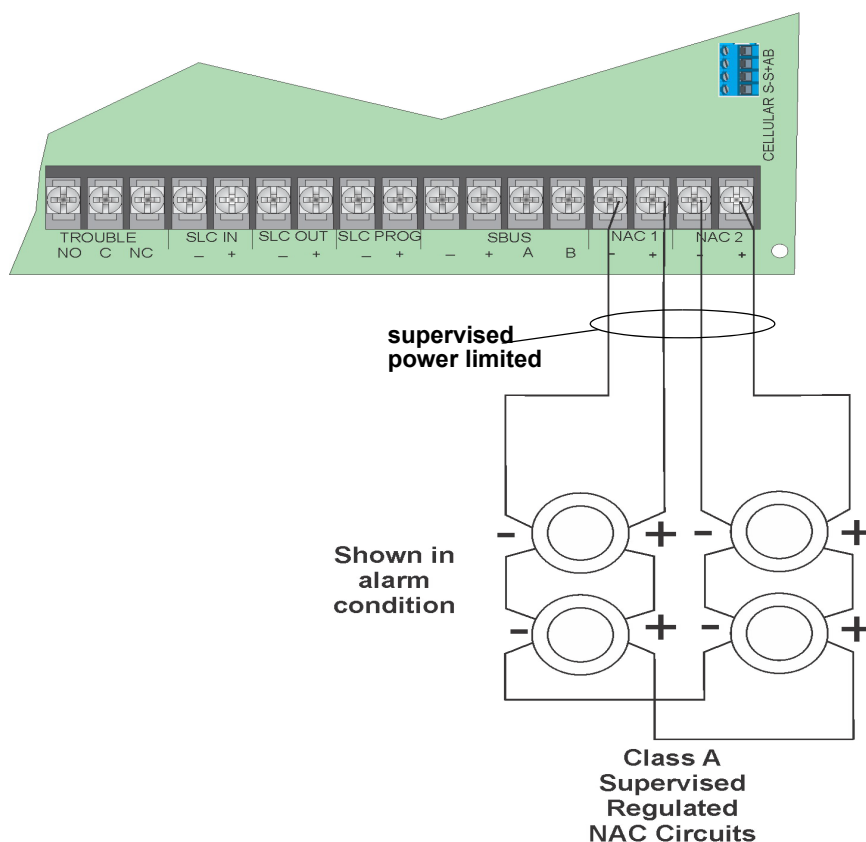

Figure 4.44 Class A Notification Appliance Circuit Configuration
1. Wire the Class A notification appliances as shown in Figure 4.44.